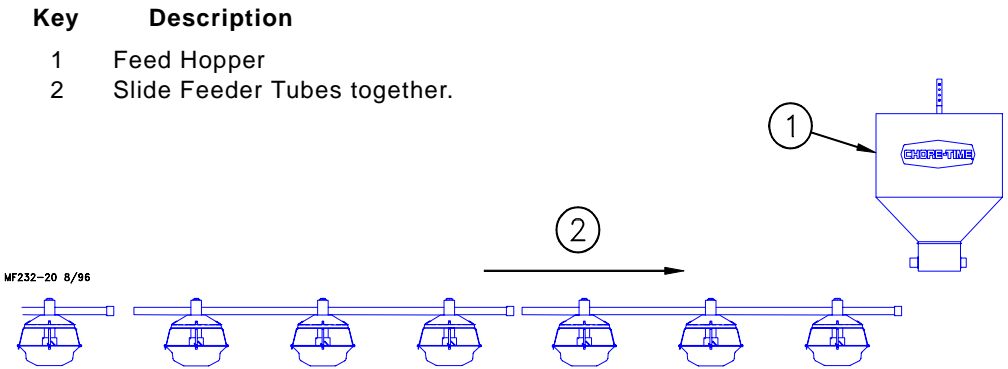

Figure 25. Feeder Line Assembly Procedure (side view)
- 1. The tubes should be laying end to end in approximately the final location of the line. The expanded end of each tube should be toward the Hopper end of the line. See Figure 25.